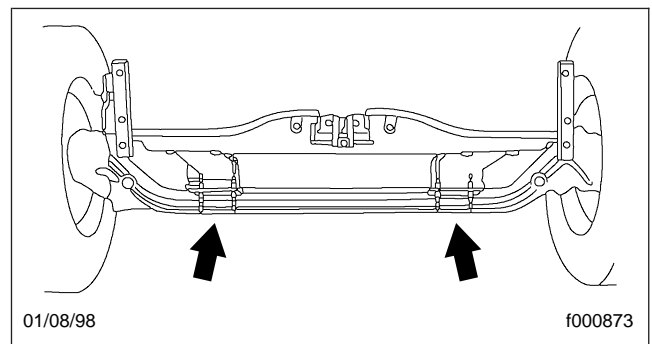

Fig. 3, Front Lifting Points
If, on five-handhole or aluminum wheels, the valve stems of rear wheel assemblies are in the same handhole, separate the valve stems by one hole. Install the wheel weights evenly and as close to 180 degrees opposite the brake drum balance weight(s) as possible. See **Fig. 3**.
1. See **Fig. 3** for the front lifting points.